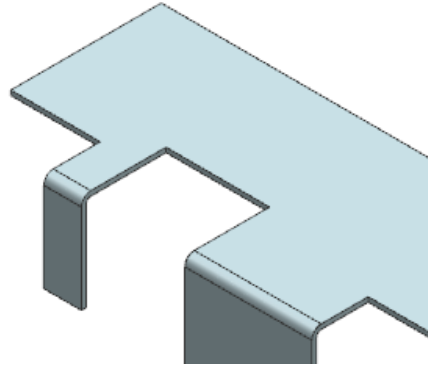

Figure 14-113 The fourth flange
10. Enter **20** mm in the **Length** edit box and choose the **Apply** button from the **Flange** dialog box; the fourth flange is created, as shown in Figure 14-113.